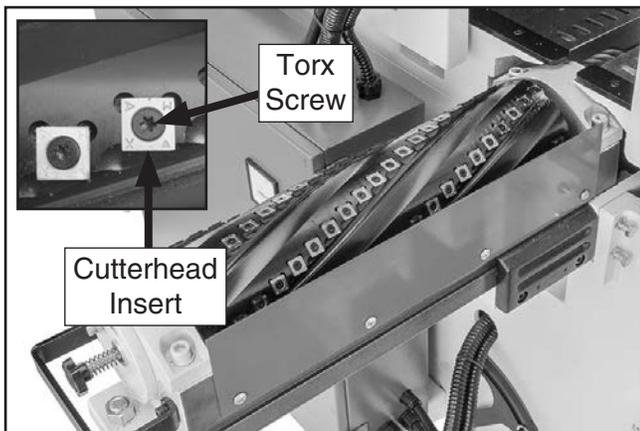

Figure 52. Location of lower cutterhead inserts and Torx screws.
- Thoroughly clean away all sawdust or debris from top of insert, Torx screw, threaded hole, and surrounding area (see **Figure 52**).